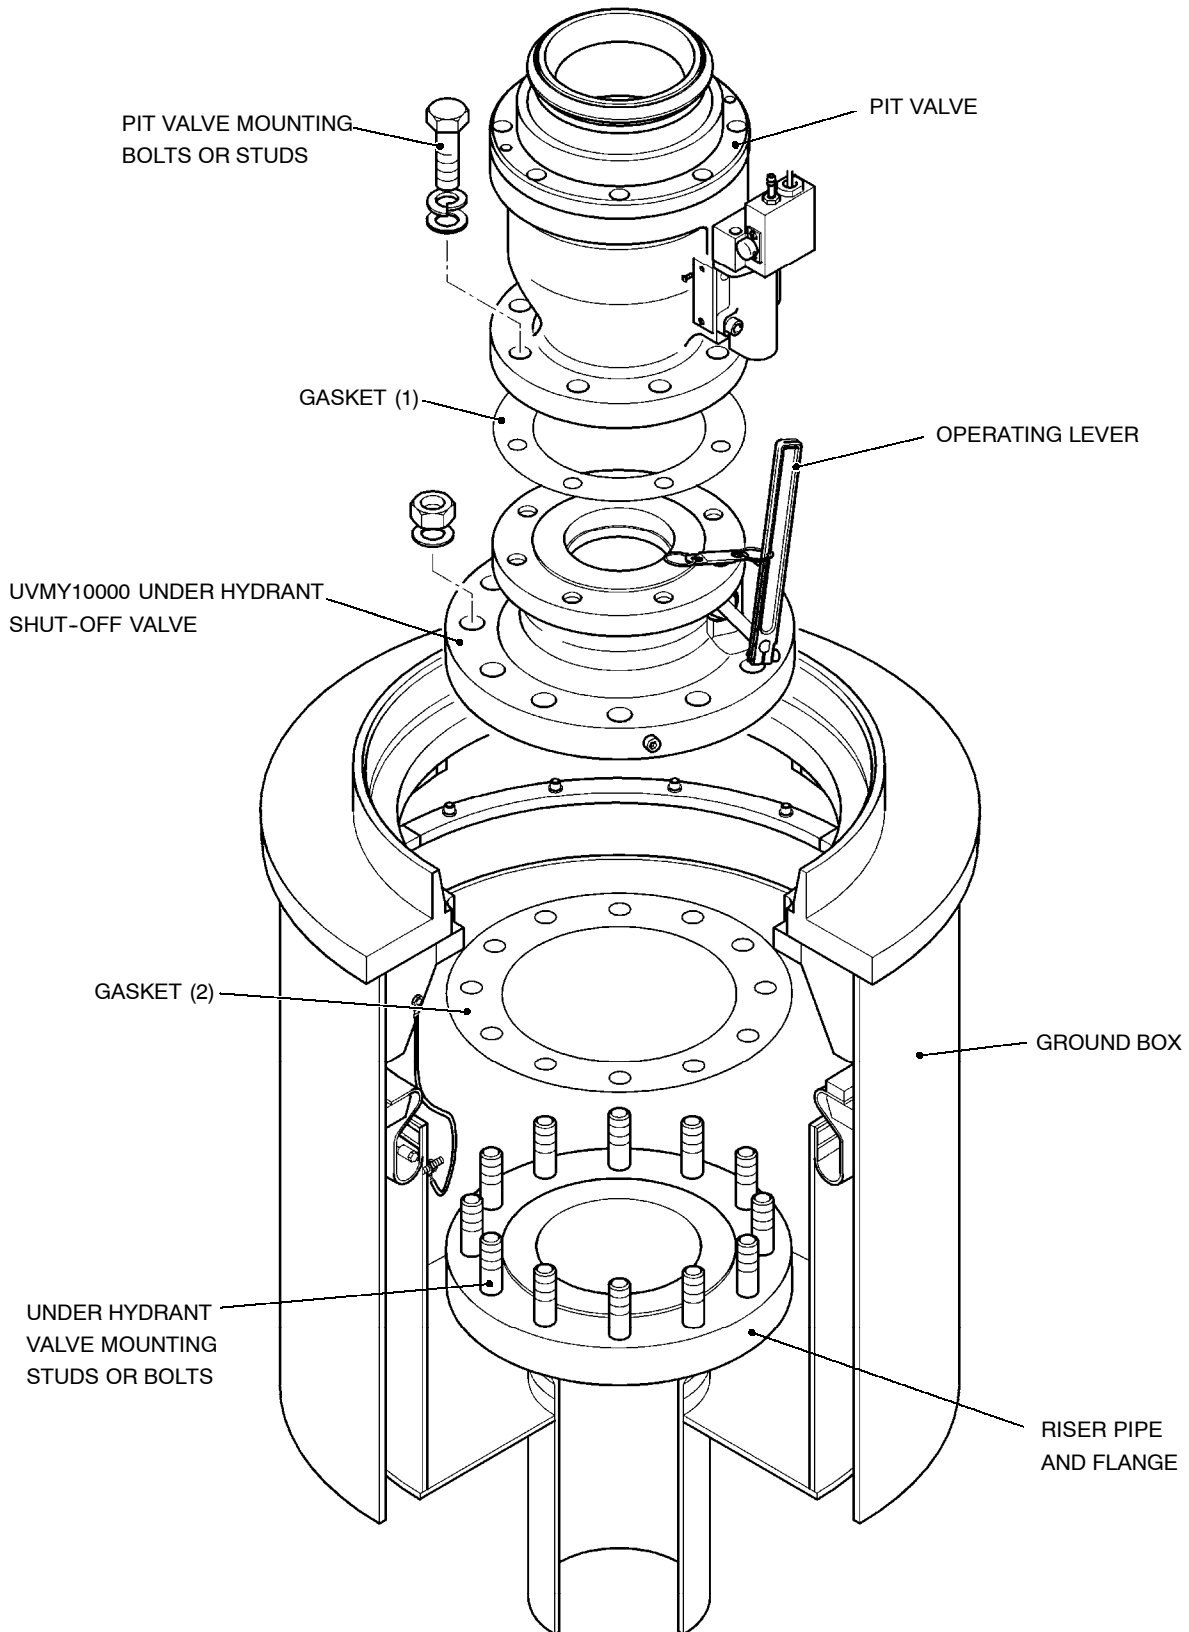

Fig 4.1 Under Hydrant Valve Installation
- 2.1 Check for any signs of leakage around the Under Hydrant Valve flange joints with Pit Box riser pipe and Pit Valve, refer to Chapter 4, Fig 4.1. If any leakage is detected isolate the Hydrant flow and remove the UHV as set out in Chapter 4.